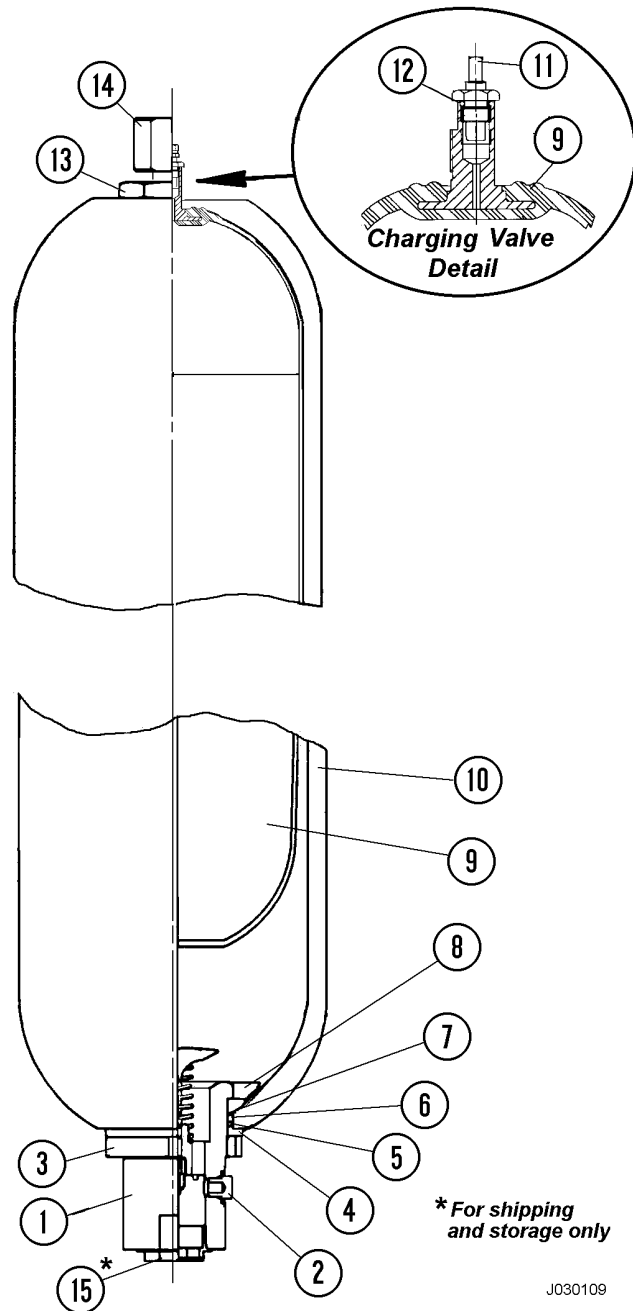

FIGURE 3-17. ACCUMULATOR ASSEMBLY
1. Secure accumulator shell (10, Figure 3-17) with a chain wrench or similar device to prevent rotation during disassembly.
2. Remove cap (14). Verify that the nitrogen has been released and remove charging valve (11). Remove bleed plug (2) from hydraulic port assembly (1).
3. Use a spanner wrench to remove locking ring (3) from the hydraulic port assembly. Use an adjustable wrench on the flats of the hydraulic port assembly to prevent the port assembly from rotating.
1. After shell (10, Figure 3-17) has been cleaned and inspected, secure it in place to prevent rotation during assembly.
3. With all gas completely exhausted from bladder (9), collapse the bladder and roll it longitudinally into a compact roll. To keep the bladder rolled up, insert the gas valve core to prevent air from entering the bladder.
6. Once the bladder valve stem has been pulled through the valve stem opening in the shell, install the name plate (if used) over the valve stem and install valve stem nut (13) by hand.
7. Once valve stem nut (13) is in place, remove the bladder pull rod. Tighten the nut to **76 N·m (56 ft lb)**.
8. Grasp hydraulic port assembly (1) at the threaded end and insert the poppet end into the shell. Lay the assembly inside the shell.
9. Fold anti-extrusion ring (8) to enable insertion through the shell opening, then insert the ring into the shell. Once the anti-extrusion ring has cleared the shell opening, place the ring on the poppet assembly with the steel collar facing toward the shell hydraulic oil port.